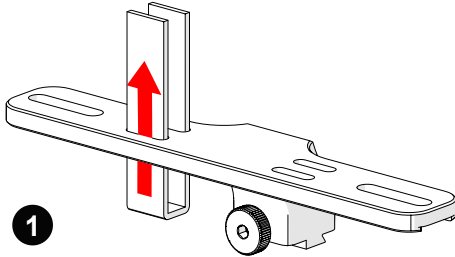

Fig. 71 - Insert velcro straps
1. Slide the velcro strap through the bracket's holes (Fig. 71).